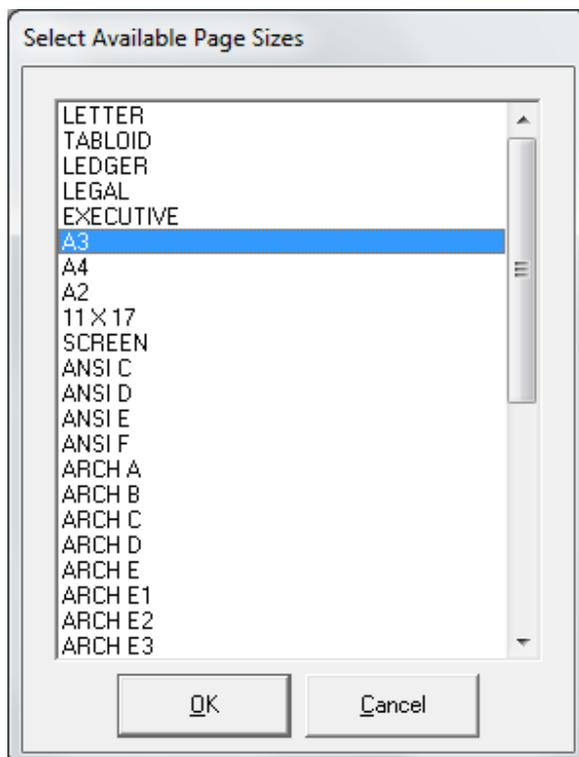

Fig 3-5
7. Alongside the Available Page Sizes field, click [Add] to add additional paper sizes available on the printer (Fig 3-5). Highlight the additional sizes and click [OK].